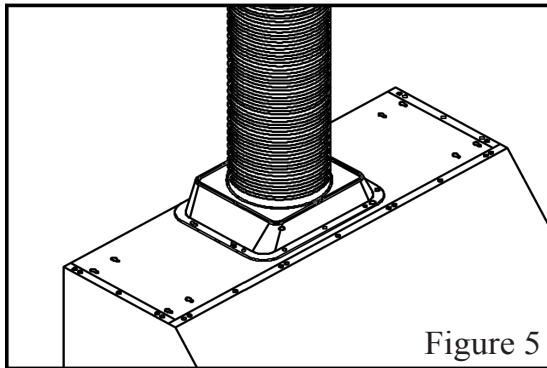

Figure 5
6. Use 8" round steel pipe (follow building codes in your area) to connect the exhaust on the hood to the duct-work above. Use silver tape or duct tape to make all joints secure and air tight. Refer to Figure 5.